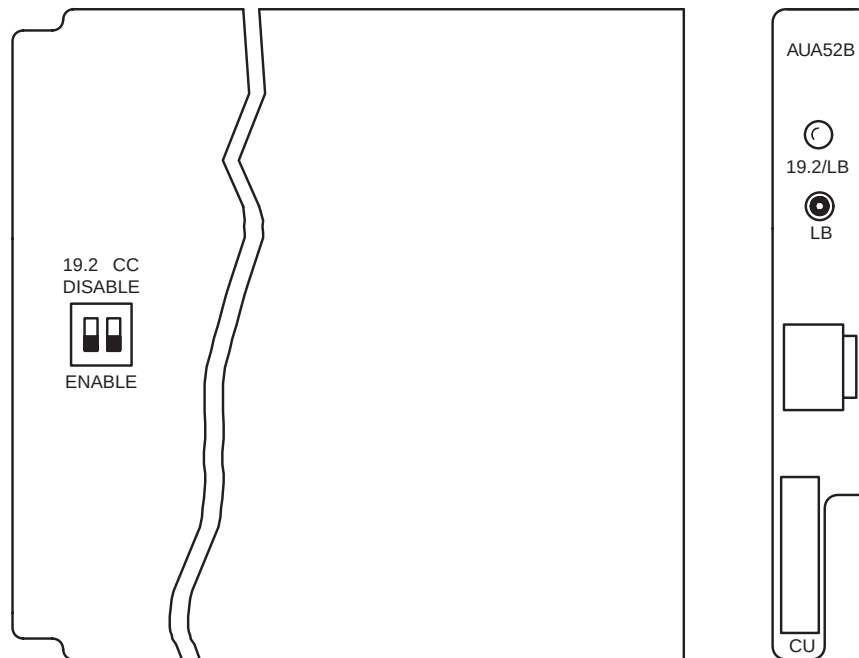

Figure 5 – AUA52B OCU Dataport Faceplate and Switch Location
20. On the **AUA52B** unit, set option switch **19.2** (Figure 5) to **ENABLE** to provide the 19.2-kb/s data rate. (This switch setting overrides the subscriber data rate selected when provisioning the **AUA52B**.) Otherwise, set option switch **19.2** to **DISABLE**.
21. Set option switch **CC** (Figure 5) to **ENABLE** to allow the 64-kb/s clear channel operation. Otherwise, set option switch **CC** to **DISABLE**.